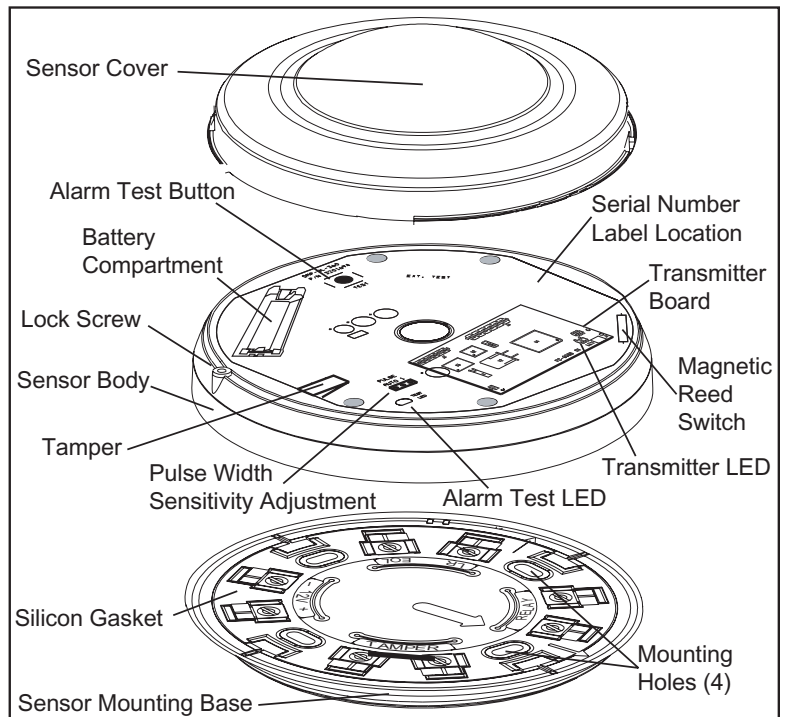
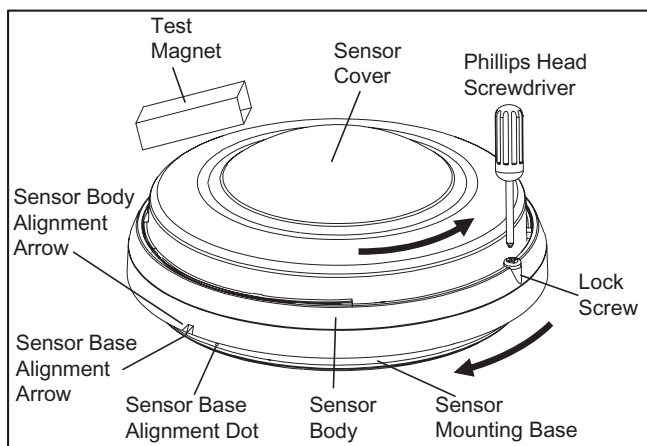

Figure 1: 1124 PIR Exploded View
Figure 2: Remove Cover
The PIR transmitter provides a survey capability to allow one person to confirm transmitter communication with the receiver while the cover is removed. Refer to Figure 2 to remove the PIR cover. The PIR transmitter board Red Survey LED turns on whenever data is sent to the receiver then immediately turns off when the receiver acknowledgement is received. Tripping the PIR tamper switch is a convenient way to send data to the receiver to confirm operation. The transmitter LED lights to indicate activity and to confirm operation. See Figure 1 for LED locations.
There are three ways to activate the walk and alarm transmission tests to check PIR range and verify signals. Before performing any of the tests, ensure the 1124 PIR is currently programmed in the Command Processor™ panel. Refer to Figures 2 and 3 as needed.
Prior to permanently mounting the 1124 PIR, check that the PIR and control panel communication is working. See the Unit Testing section. As needed refer to Figures 1 and 2.
1. If installed, remove the sensor cover. See Figure 2.
3. Observe polarity and insert the 3.0V Lithium battery into the battery holder where indicated in Figures 1 and 3.